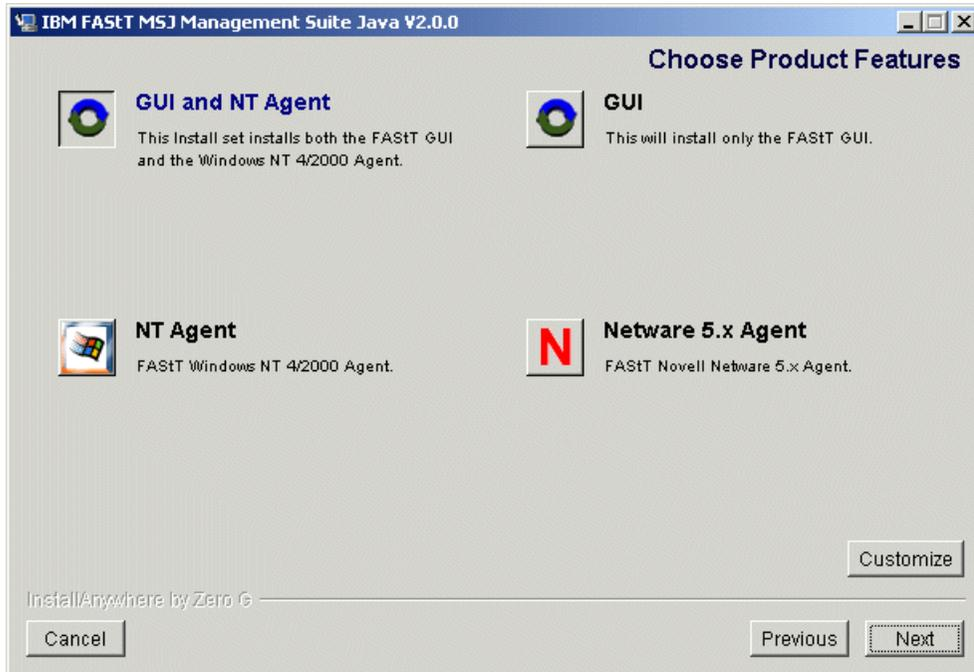

Figure B-1 IBM FAST Management Suite Java install
4. The Choose Product Features window is displayed, as shown in Figure B-1: